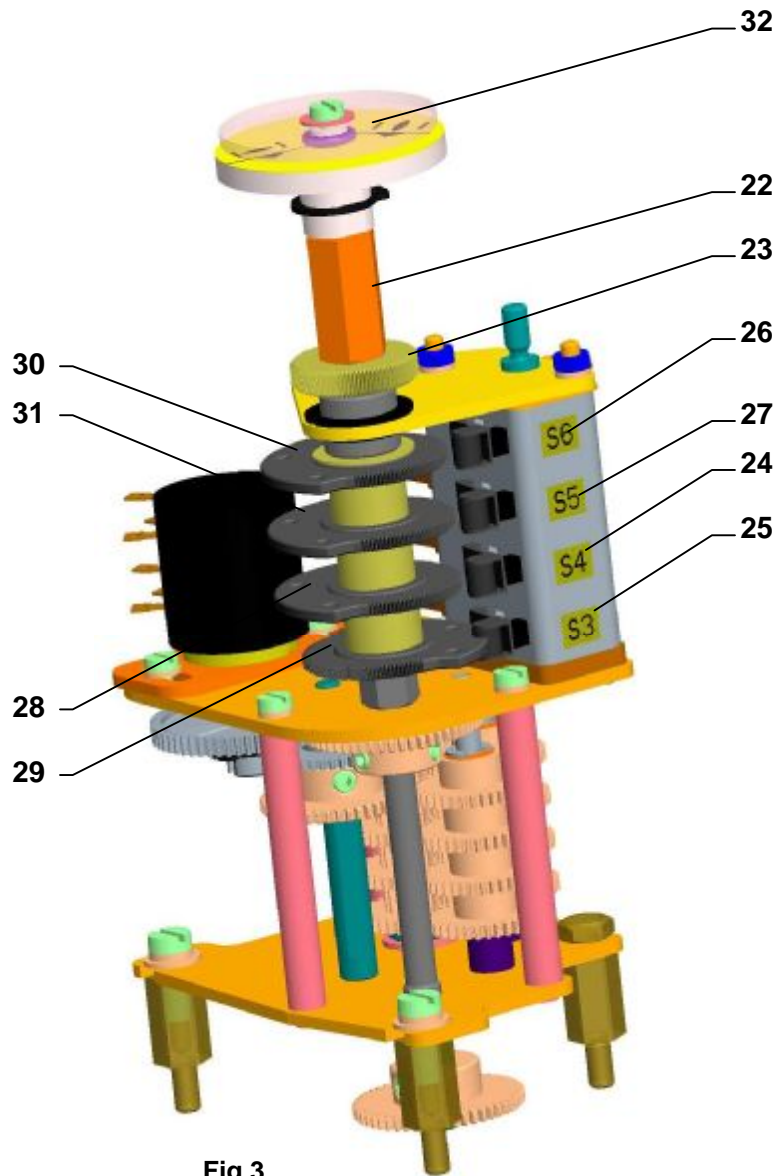

Fig.3
4.2 Adjustment of position-signalling unit (Fig.3)
UM 1-Ex, UM 2-Ex (Fig.3):
While setting, adjusting and resetting follow these steps (Fig. 3):